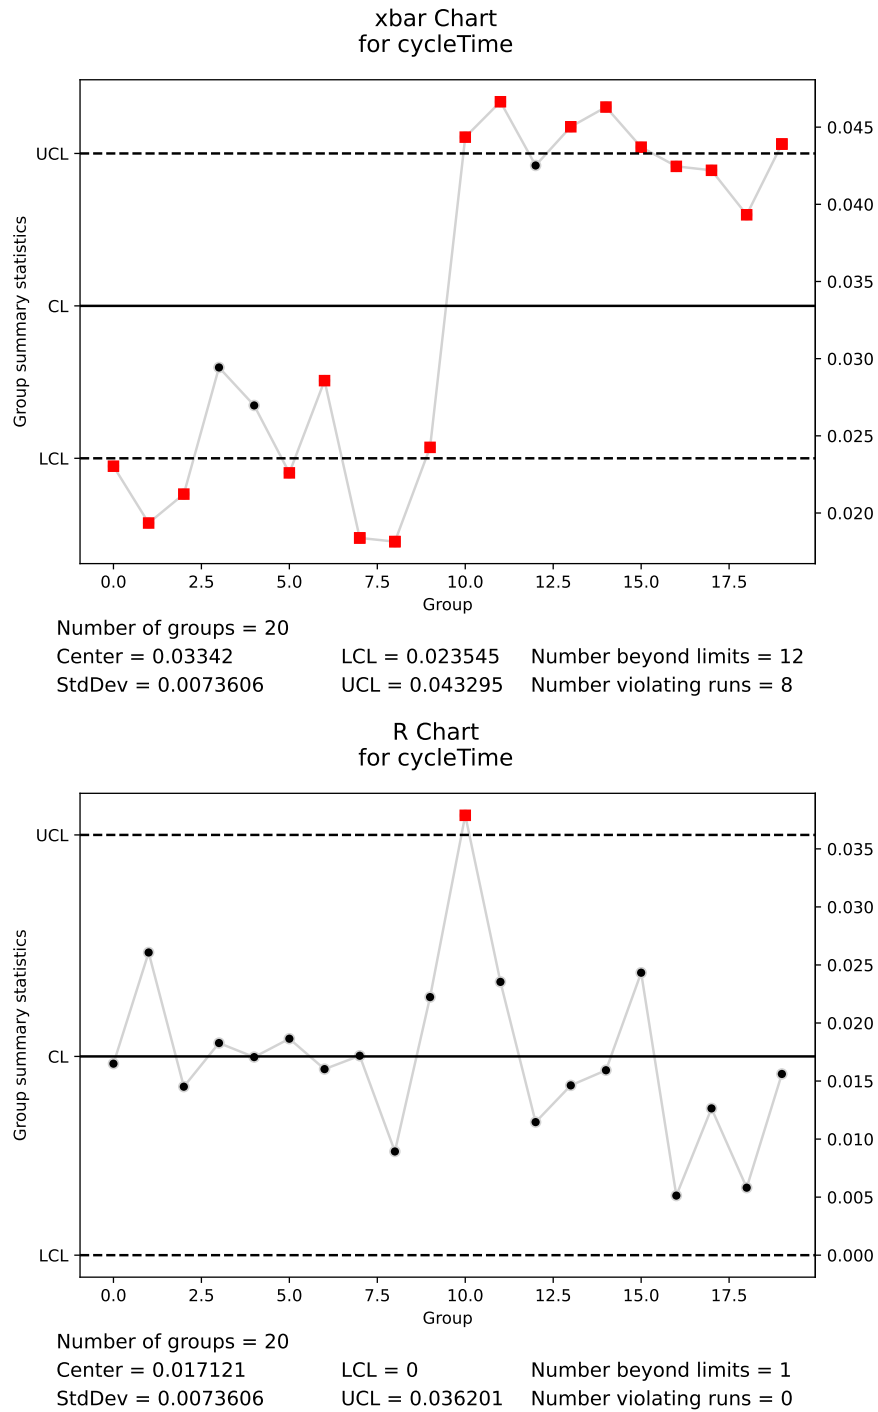

Fig. 2.7: Control charts for randomized cycle time in Piston simulation (Exercise 2.14)
**Part II (b)** Fig. 2.7 is created using the following code.
See the control charts in Fig. 2.7. Due to the randomization of the cycle times, the increased values are distributed over all groups and the mean cycle time increases by 0.01. The variability as shown in the R chart is increased too.